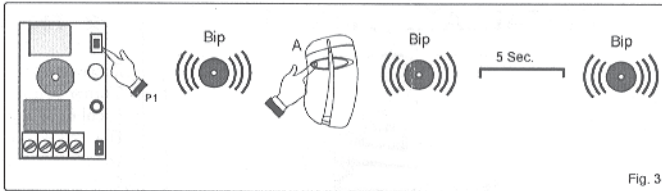

Fig. 3
- 1) Keep P1 pressed down until the buzzer emits a short beep (approx. 3 seconds) ; (Fig 3)